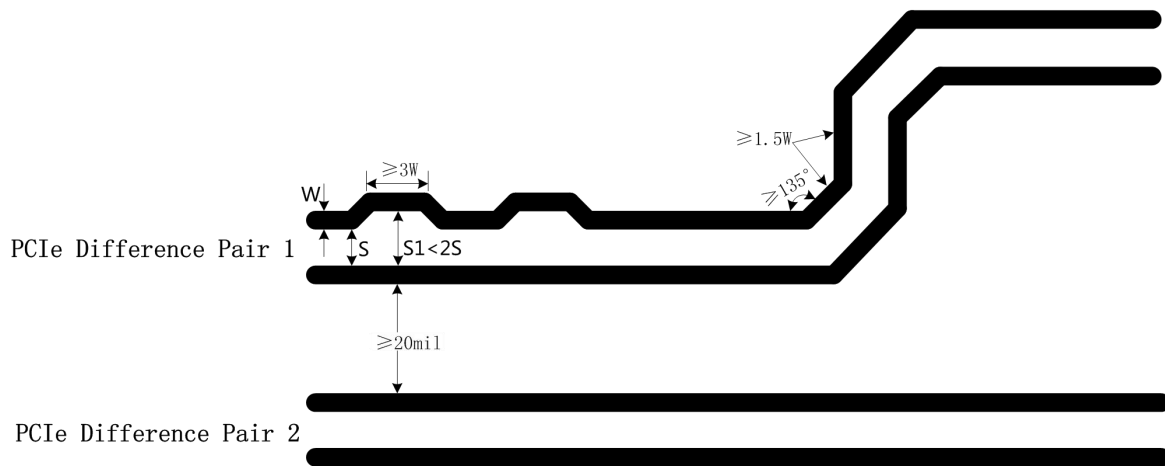

Figure 3-10 Requirement of PCIe Line
- Try to avoid bended lines and avoid introducing common-mode noise in the system, which will influence the signal integrity and EMI of difference pair. As shown in Figure 3-10, the bending angle of all lines should be equal or greater than 135° , the spacing between difference pair lines should be larger than 20mil, and the line caused by bending should be greater than 1.5 times line width at least. When a serpentine line is used for length match with another line, the bended length of each segment shall be at least 3 times the line width ($\geq 3W$). The largest spacing between the bended part of the serpentine line and another one of the differential lines must be less than 2 times the spacing of normal differential lines ($S1 < 2S$);